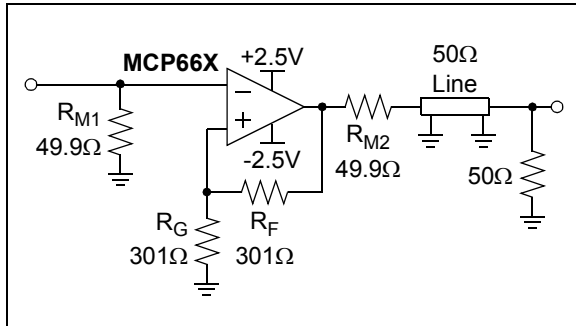

FIGURE 4-10: 50Ω Line Driver.
Differential gain (DG) and differential phase (DP) refer to the non-linear distortion produced by a NTSC or a phase-alternating line (PAL) video component. Table 1-2 and Figure 2-34 show the typical performance of the MCP661, configured as a gain of +2 amplifier (see Figure 4-10), when driving one back-matched video load (150Ω, for 75Ω cable). Microchip tests use a sine wave at NTSC's color sub-carrier frequency of 3.58 MHz, with a 0.286V_{P-P} magnitude. The DC input voltage is changed over a +0.7V range (positive video) or a -0.7V range (negative video).
Figure 4-10 shows the MCP661 driving a 50Ω line. The large output current (e.g., see Figure 2-18) makes it possible to drive a back-matched line (R_{M2} , the 50Ω line and the 50Ω load at the far end) to more than $\pm 2V$ (the load at the far end sees $\pm 1V$). It is worth mentioning that the 50Ω line and the 50Ω load at the far end together can be modeled as a simple 50Ω resistor to ground.